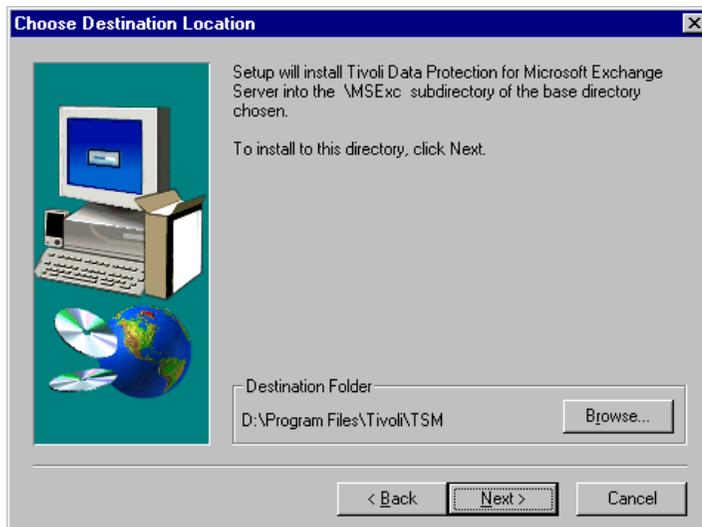

Figure 57. Installing TDP for MS Exchange, choose installation folder
2. Choose the destination where you want to install TDP (Figure 57).